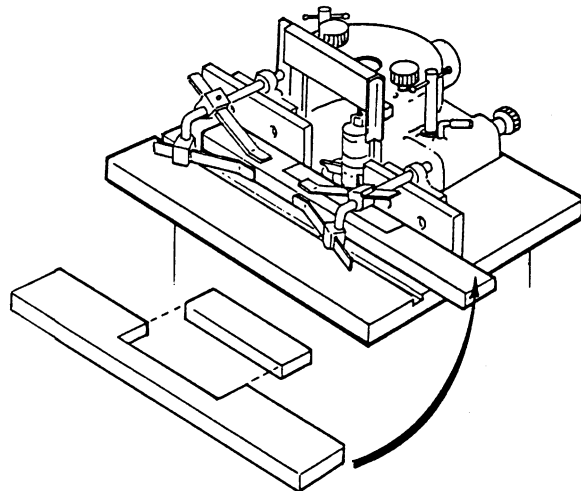

Figure 27
When edge shaping, never attempt to hand guide any stock less than 12 inches (304.8mm) long, or narrower than 3 inches (76.2mm) without the use of a special guide as shown in Figure 27.
1. Use the hold-ins and hold-downs as shown in Figure 27 to firmly hold the workpiece down and against the fence. If workpiece is too wide for the hold-ins to be used, clamp a scrap board to the table to substitute for the hold-ins.